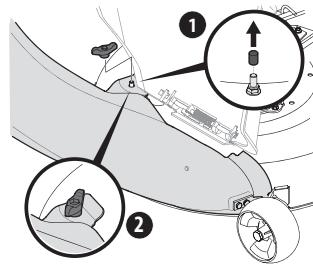

Figure 20
2. Secure the bagger chute to the deck using a wing knob from cart collection support assembly 689-02019. See Figure 20.
NOTE: If present, remove the protective cap off of the mounting stud on the mowing deck as shown in the upper inset of Figure 20.